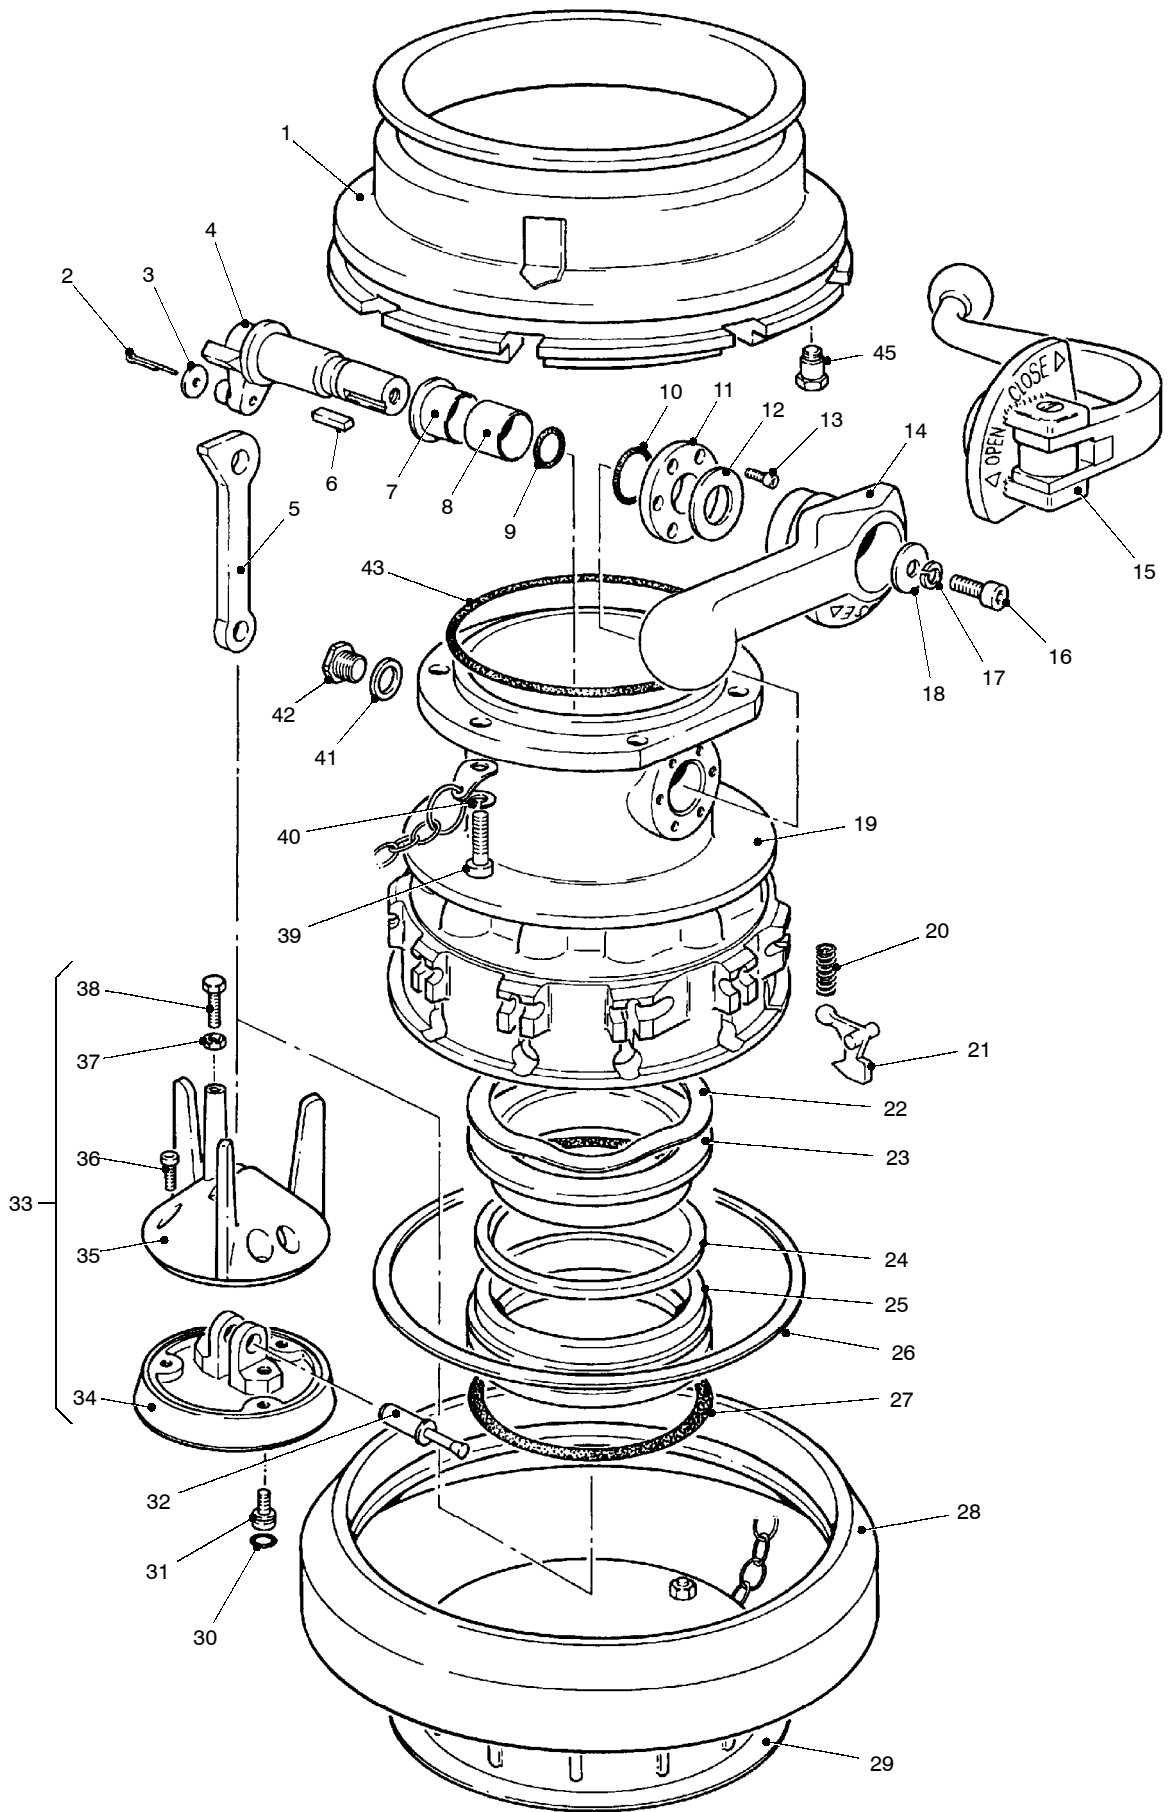

Fig 5.1 API Coupler assembly
## 2 COUPLER (Fig 5.1)
- 2.3.9 Locate the link (5) onto the crank ensuring it is positioned as shown in Fig 5.1, fit the washer (3) and secure with split pin (2).